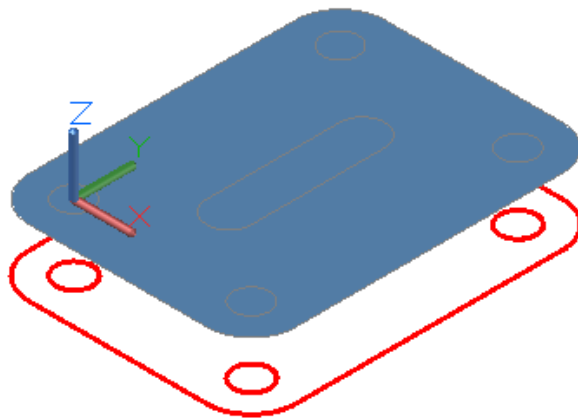

Figure Step 11
Step 11 Using the REGION command, insert a region using the outside closed polyline. (Figure Step 11)